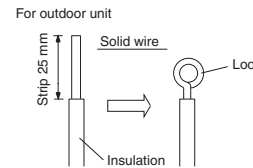

Fig. 3-54
- (1) Cut the wire end with a cutting pliers, then strip the insulation to expose the solid wire about 25 mm. (Fig. 3-54)